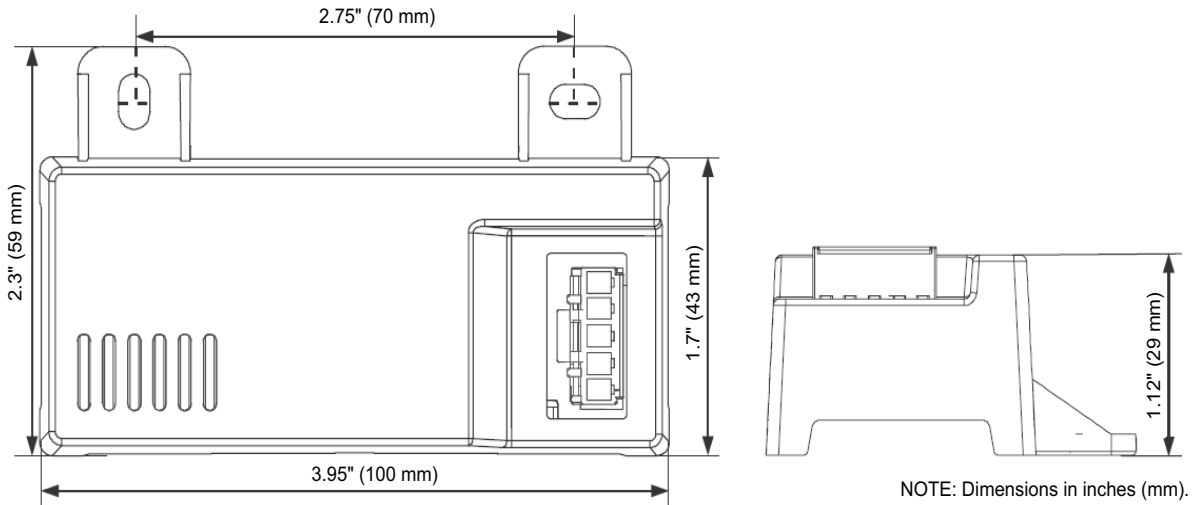
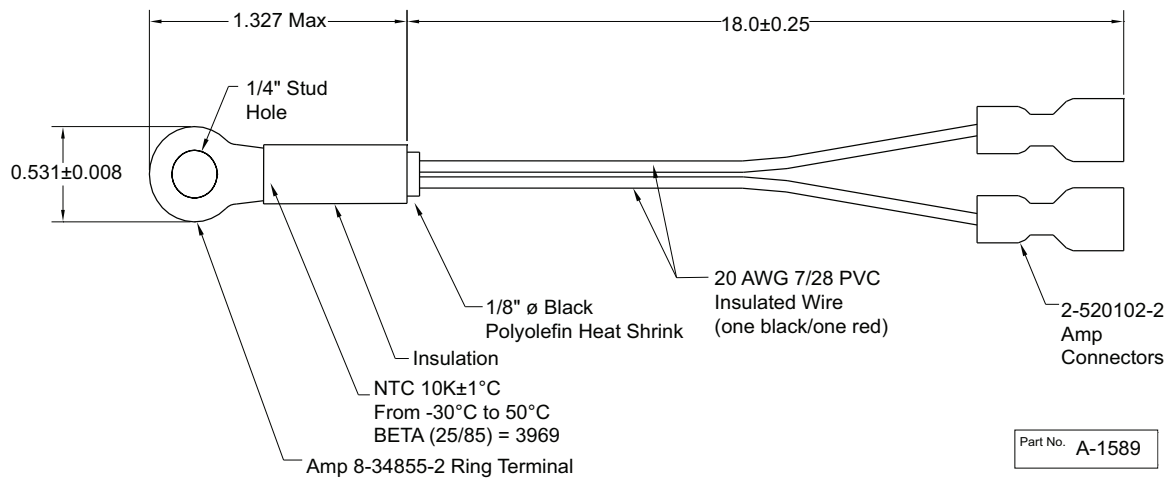
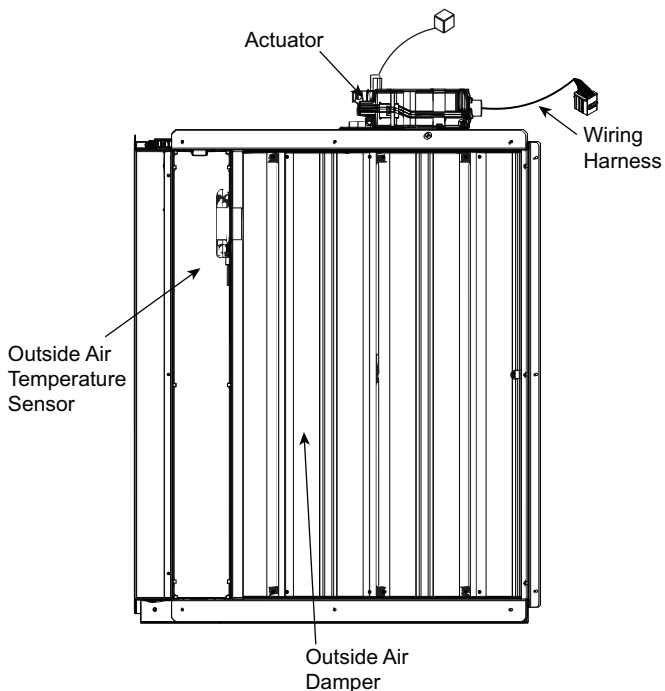

Fig. 83 – HH57LW001 Dimensional, Connection and Switching Information
Fig. 84 – HH79NZ039 Dry Bulb and Mixed Air Sensor Wiring
Fig. 85 – EconomizerONE Component Locations (CRECOMZR108A00 Shown)
When using the HH57LW001 enthalpy sensor (see Fig. 83) for outside air changeover, the existing HH79NZ039 dry bulb sensor (see Fig. 84) must be removed. The enthalpy sensor will be mounted in the same location as the dry bulb sensor (see Fig. 85). When the enthalpy sensor's OA (Outside Air) temperature, enthalpy, and dew point are below their respective setpoints, the outside air can be used for free cooling. When any of these are above the setpoint, free cooling will not be available. Enthalpy setpoints are configurable and create an enthalpy boundary according to the user's input. For additional details, see Fig. 86-87 and Table 31.
The optional enthalpy control sensor (P/N: HH57LW001) communicates with the POL224 economizer controller using the 5-wire harness, 48TC005213. The HH57LW001 sensor can be used as a single outside air enthalpy, a differential return enthalpy, or a differential return temperature sensor. Refer to the base unit control wiring diagrams found earlier in this book to wire the HH57LW001 enthalpy sensor for each option. Use Fig. 83 and Table 33 on page 64 to locate the wiring terminals for each enthalpy control sensor.
Economizers are shipped standard with an HH79NZ039 outside air dry bulb sensor (see Fig. 84). System default setting (high temp limit) is 63°F (17°C) and has a range of 48°F to 80°F (9°C to 27°C). Sensor is factory installed on economizer.
If installing the optional HH57LW001 enthalpy sensor, the HH79NZ039 dry bulb outside air sensor must first be removed. Wire sensor to harness 48TC005213 and the (5) wires from the harness to the EconomizerONE harness in the return air chamber. Harness 48TC005213 has a 5-pin plug that connects directly to the HH57LW001 enthalpy sensor. Refer to the base unit control wiring diagrams earlier in this book for wiring connections. Refer to Fig. 83 and Table 33.